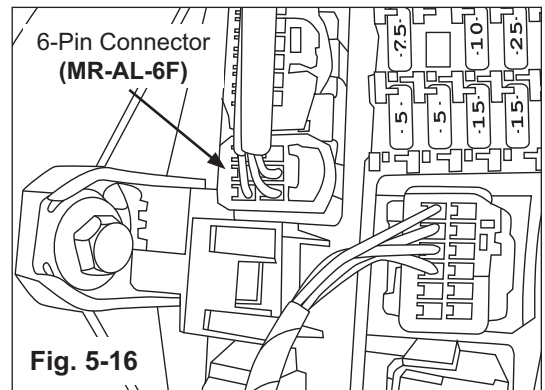

Fig. 5-16
7. Locate the BCM 6-pin connector (MR-AL-6F) in the driver side kick panel area. (Fig. 5-16)